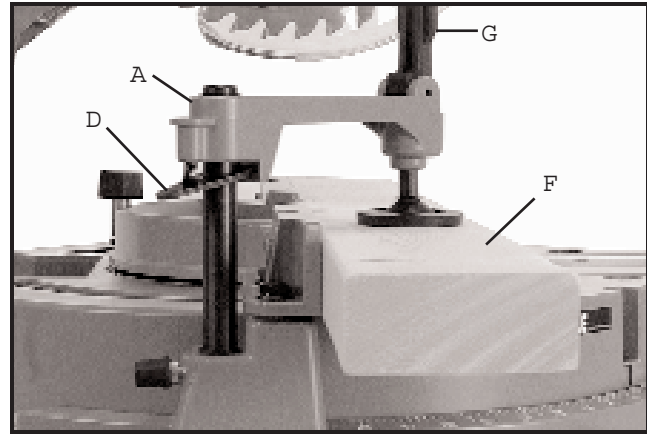

Fig. 23
2. During operation, lower clamp (A) Fig. 23, by depressing lock lever (D), until the bottom of the clamp (A) lightly contacts top of workpiece (F). **IMPORTANT:** When lowering clamp (A) make certain cam lever (G) is in the up position as shown.